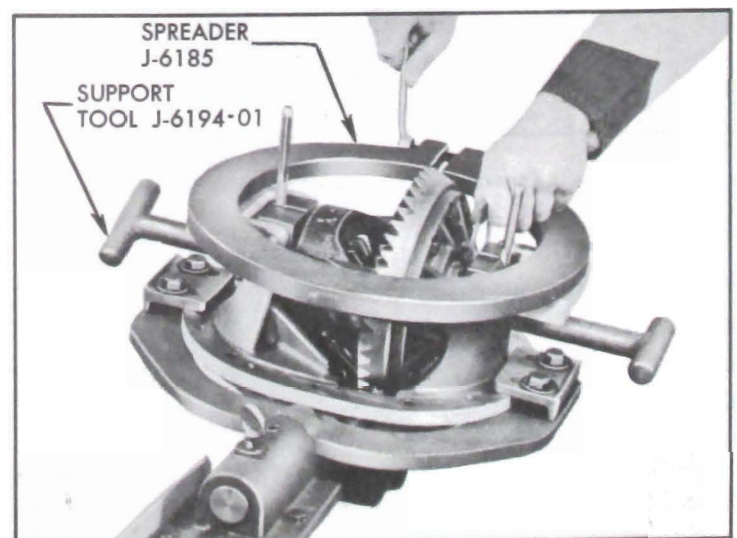

Figure 6-35—Installing Differential Bearing Shims
*push differential shim into position. If pedestals are sprung too far, they may take a permanent set. See figure 6-35. Leave support tool in position until after shim is started to keep case assembly from dropping out of line.*